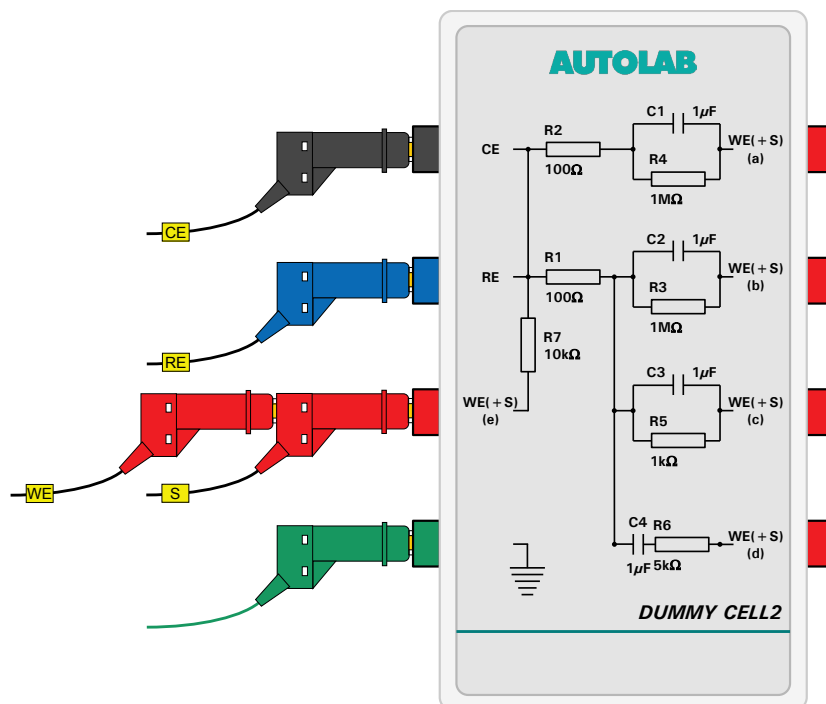

Figure 1.104 – Overview of the connections required for the determination of C1
3. Connect the Autolab Dummy cell as shown in Figure 1.104. Connect the ground lead from the PGSTAT to the **Faraday cage**.